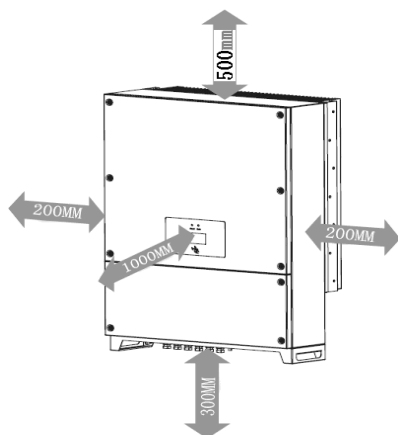

Fig. 4 Minimum clearance
- In order to maintain sufficient ventilation and service access, a clearance between the inverter and surrounding objects should be observed as following (as shown in Figure 4) : $\geq 200\text{mm}$ at the sides; $\geq 500\text{mm}$ at the top; $\geq 300\text{mm}$ at the underside; $\geq 1000\text{mm}$ from the front.